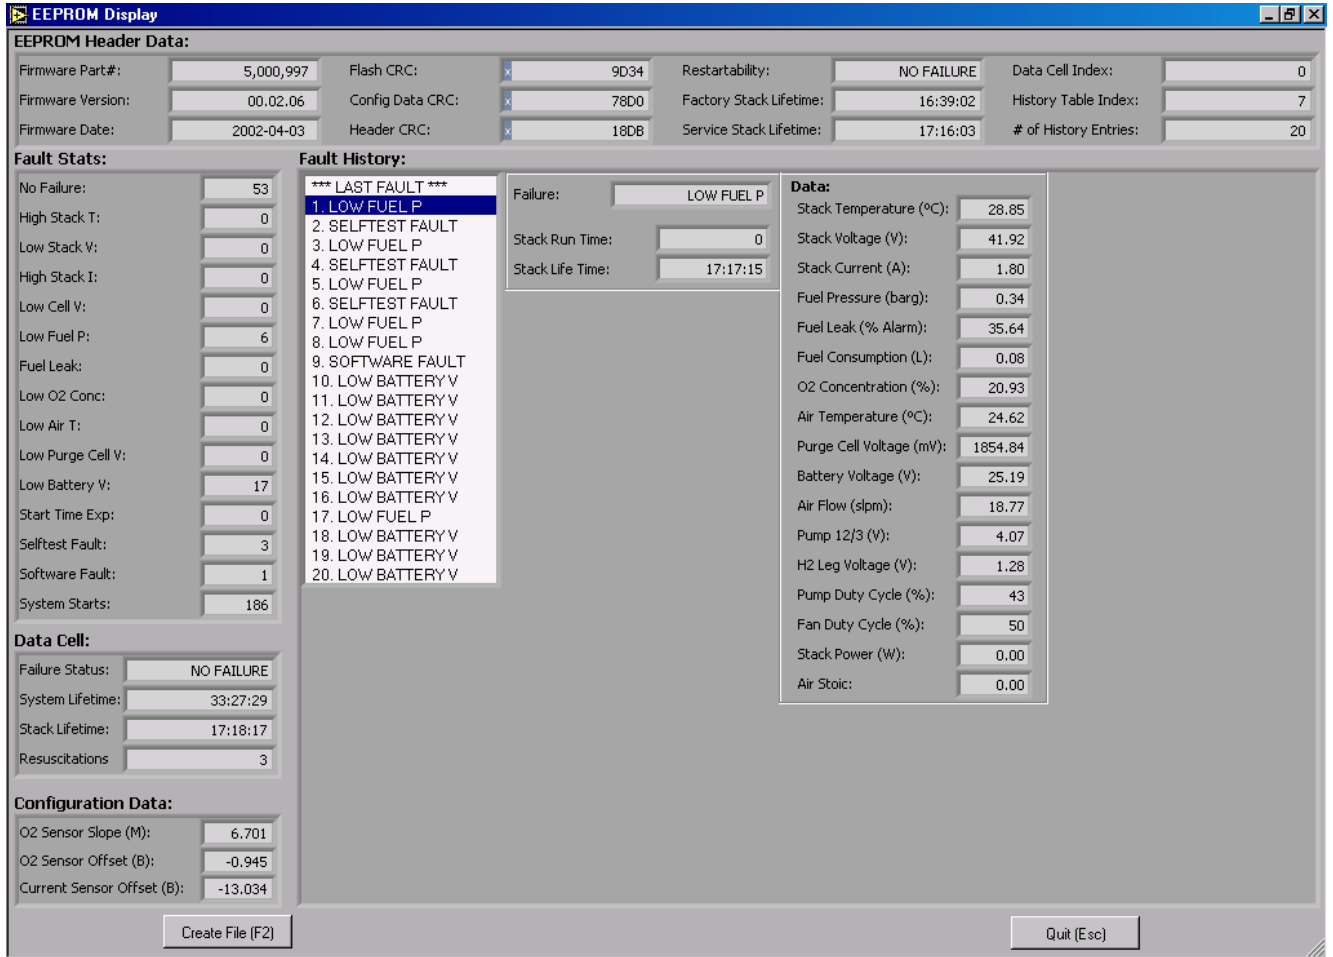

Figure 18: Sample of Historical Fault Data Screen
- To view one of the 20 previous faults, click on the desired fault on the fault list. The header and sidebar items remain the same, and the fault history shows the historical fault data, as shown in Figure 18. This screen is similar to the last fault screen but only contains information pertaining to the selected fault.